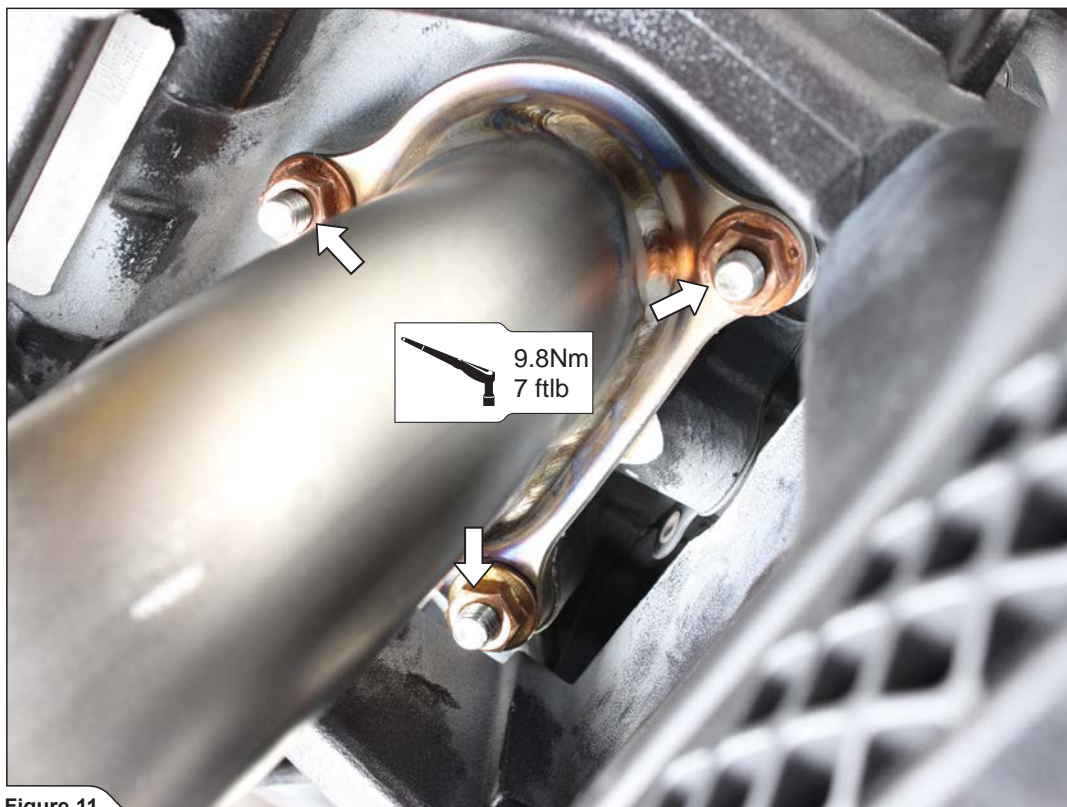

Figure 11
1. Tighten the front header onto the cylinder head, using stock nuts (Figure 11).